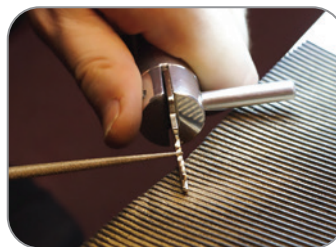

Figure 10-6: Filing at a 90° angle to the key
4. Holding your file handle closest to the file blade, use a few strokes to take off just a little material at the marked position on the key. Make sure to hold your file at a 90° angle to the key so both sides of the cut are equal (see Figure 10-6).